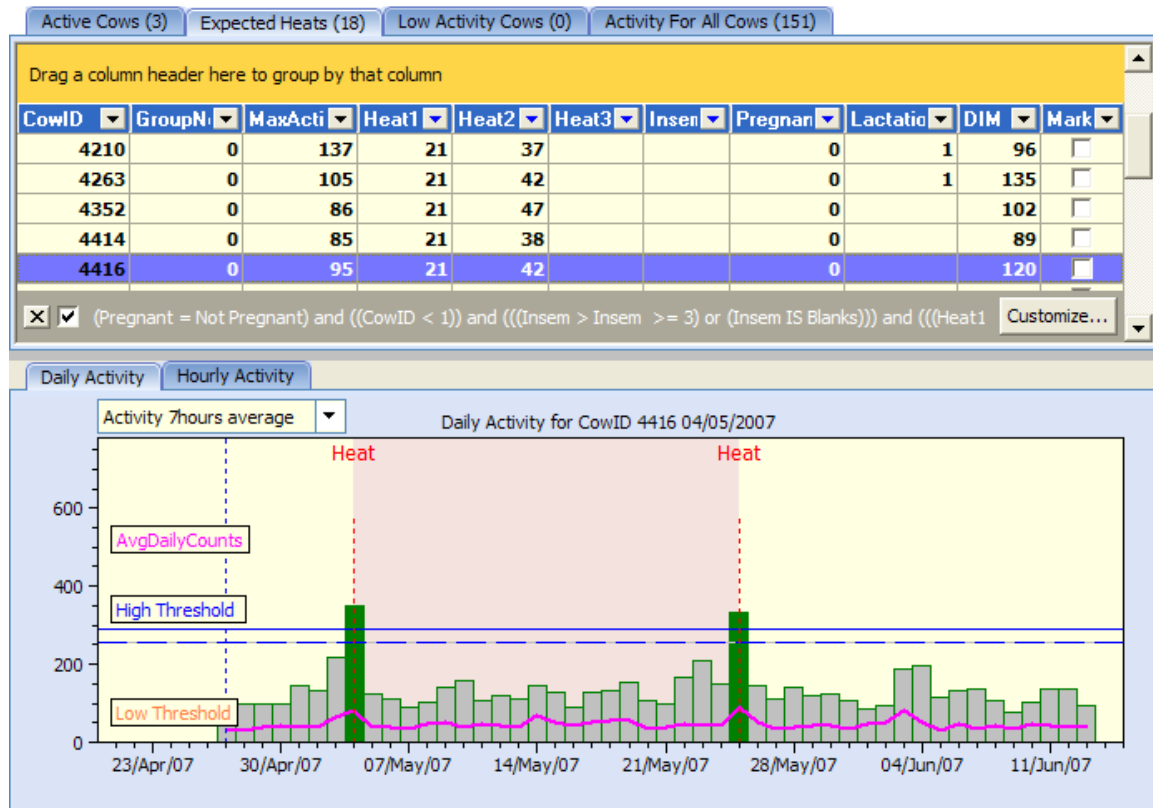

Figure 18 Main Screen.
- Right click on the CowID that you wish to enter an event for on the top half of the screen shown in Figure 18 above.